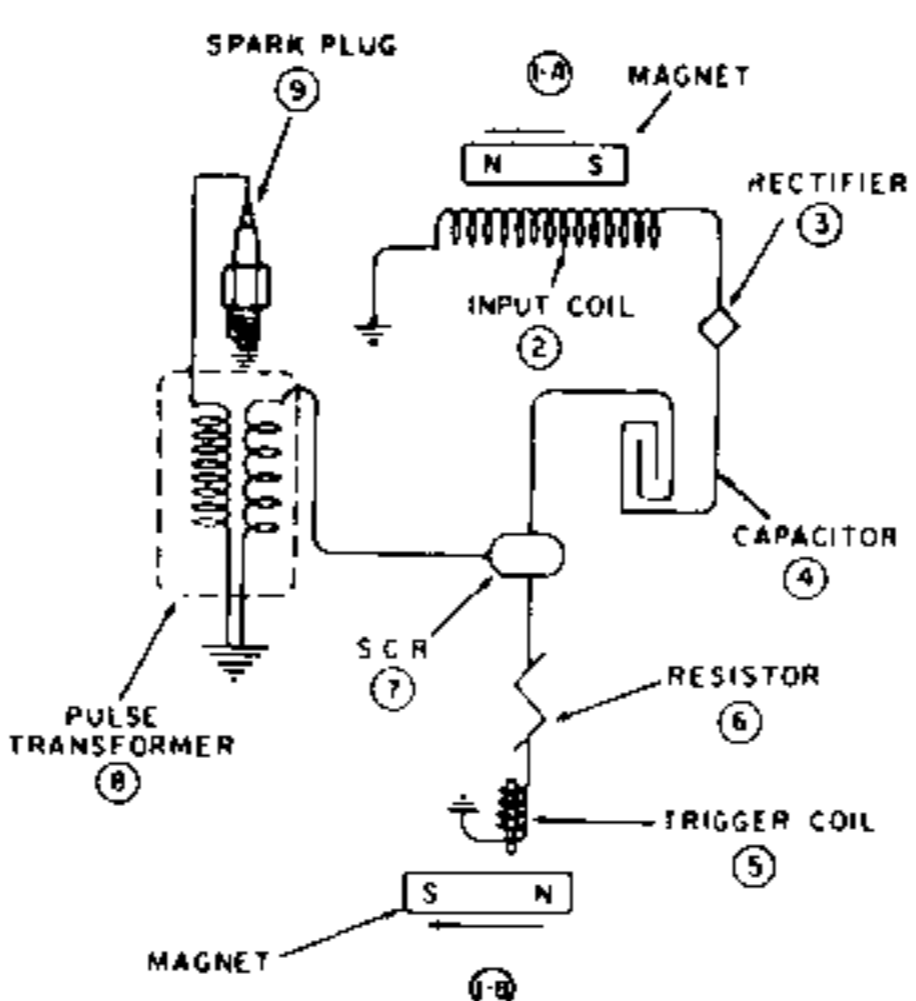

Fig. T62—Operational diagram of solid state ignition system.
rotating flywheel with charging magnets. As flywheel magnet passes position (1A—Fig. T62), a low voltage AC current is induced into input coil (2). Current passes through rectifier (3) converting this current to DC. It then travels to capacitor (4) where it is stored. The flywheel rotates approximately 180 degrees to position (1B). As it passes trigger coil (5), it induces a very small electric charge into the coil. This charge passes through resistor (6) and turns on the SCR (silicon controlled rectifier) switch (7). With SCR switch closed, low voltage current stored in capacitor (4) travels to pulse transformer (8). Voltage is stepped up instantaneously and current is discharged across electrodes of spark plug (9), producing a spark before top dead center.